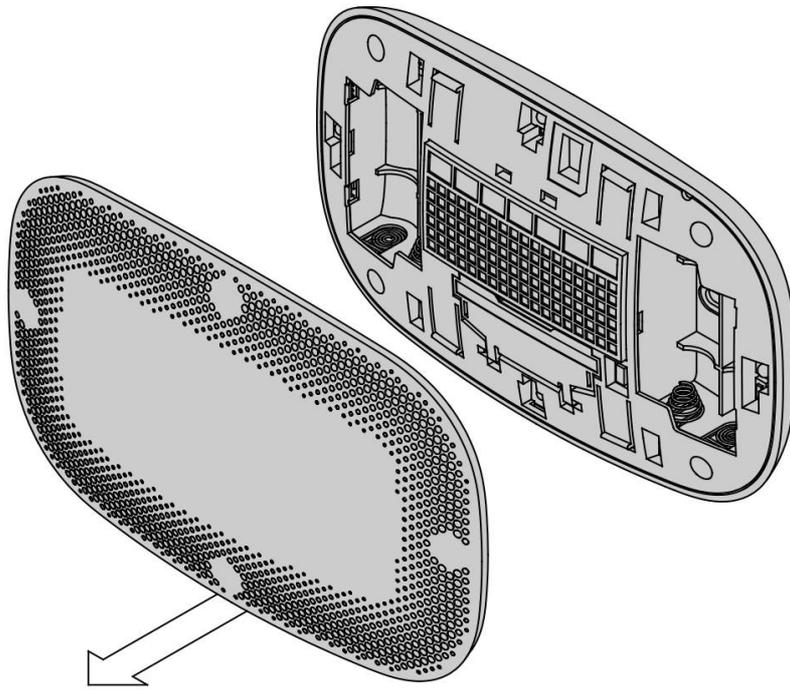

Figure 2. Open ZTS-500 front housing
1. Open the ZTS-500 by pulling the two sections apart (Figure 2). Use the fingertips of one hand to grip the tab on the front housing.